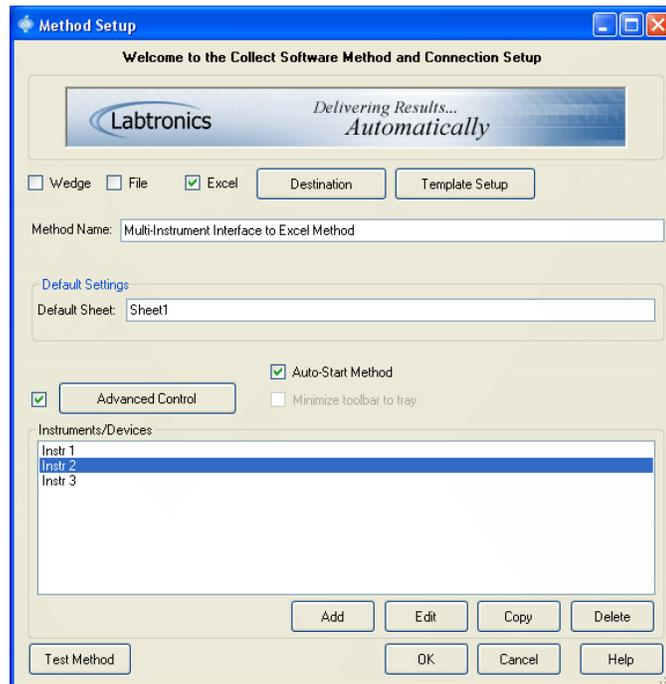

Figure 2.2: Method Setup, Start Setup Tab.
3. A [Method Setup] dialog box similar to the example in Figure 2.2 will appear.